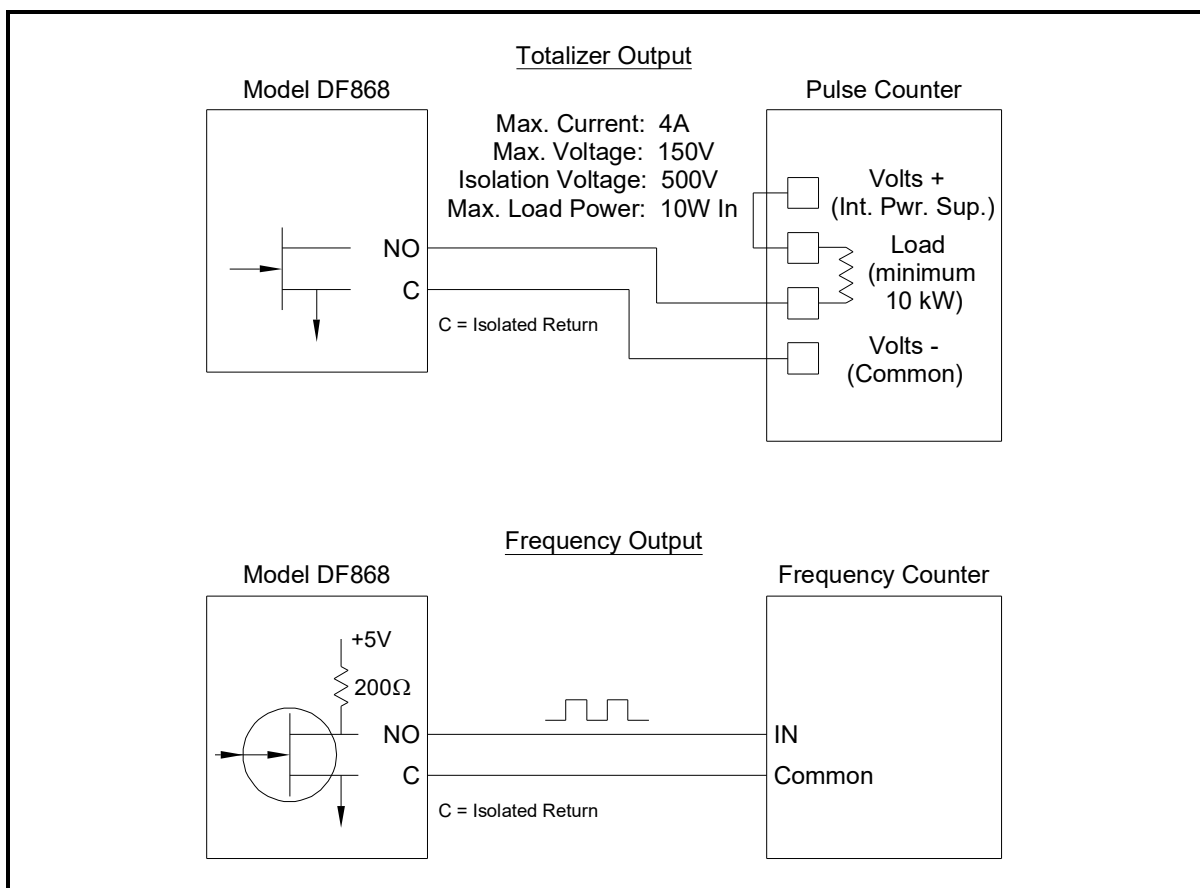
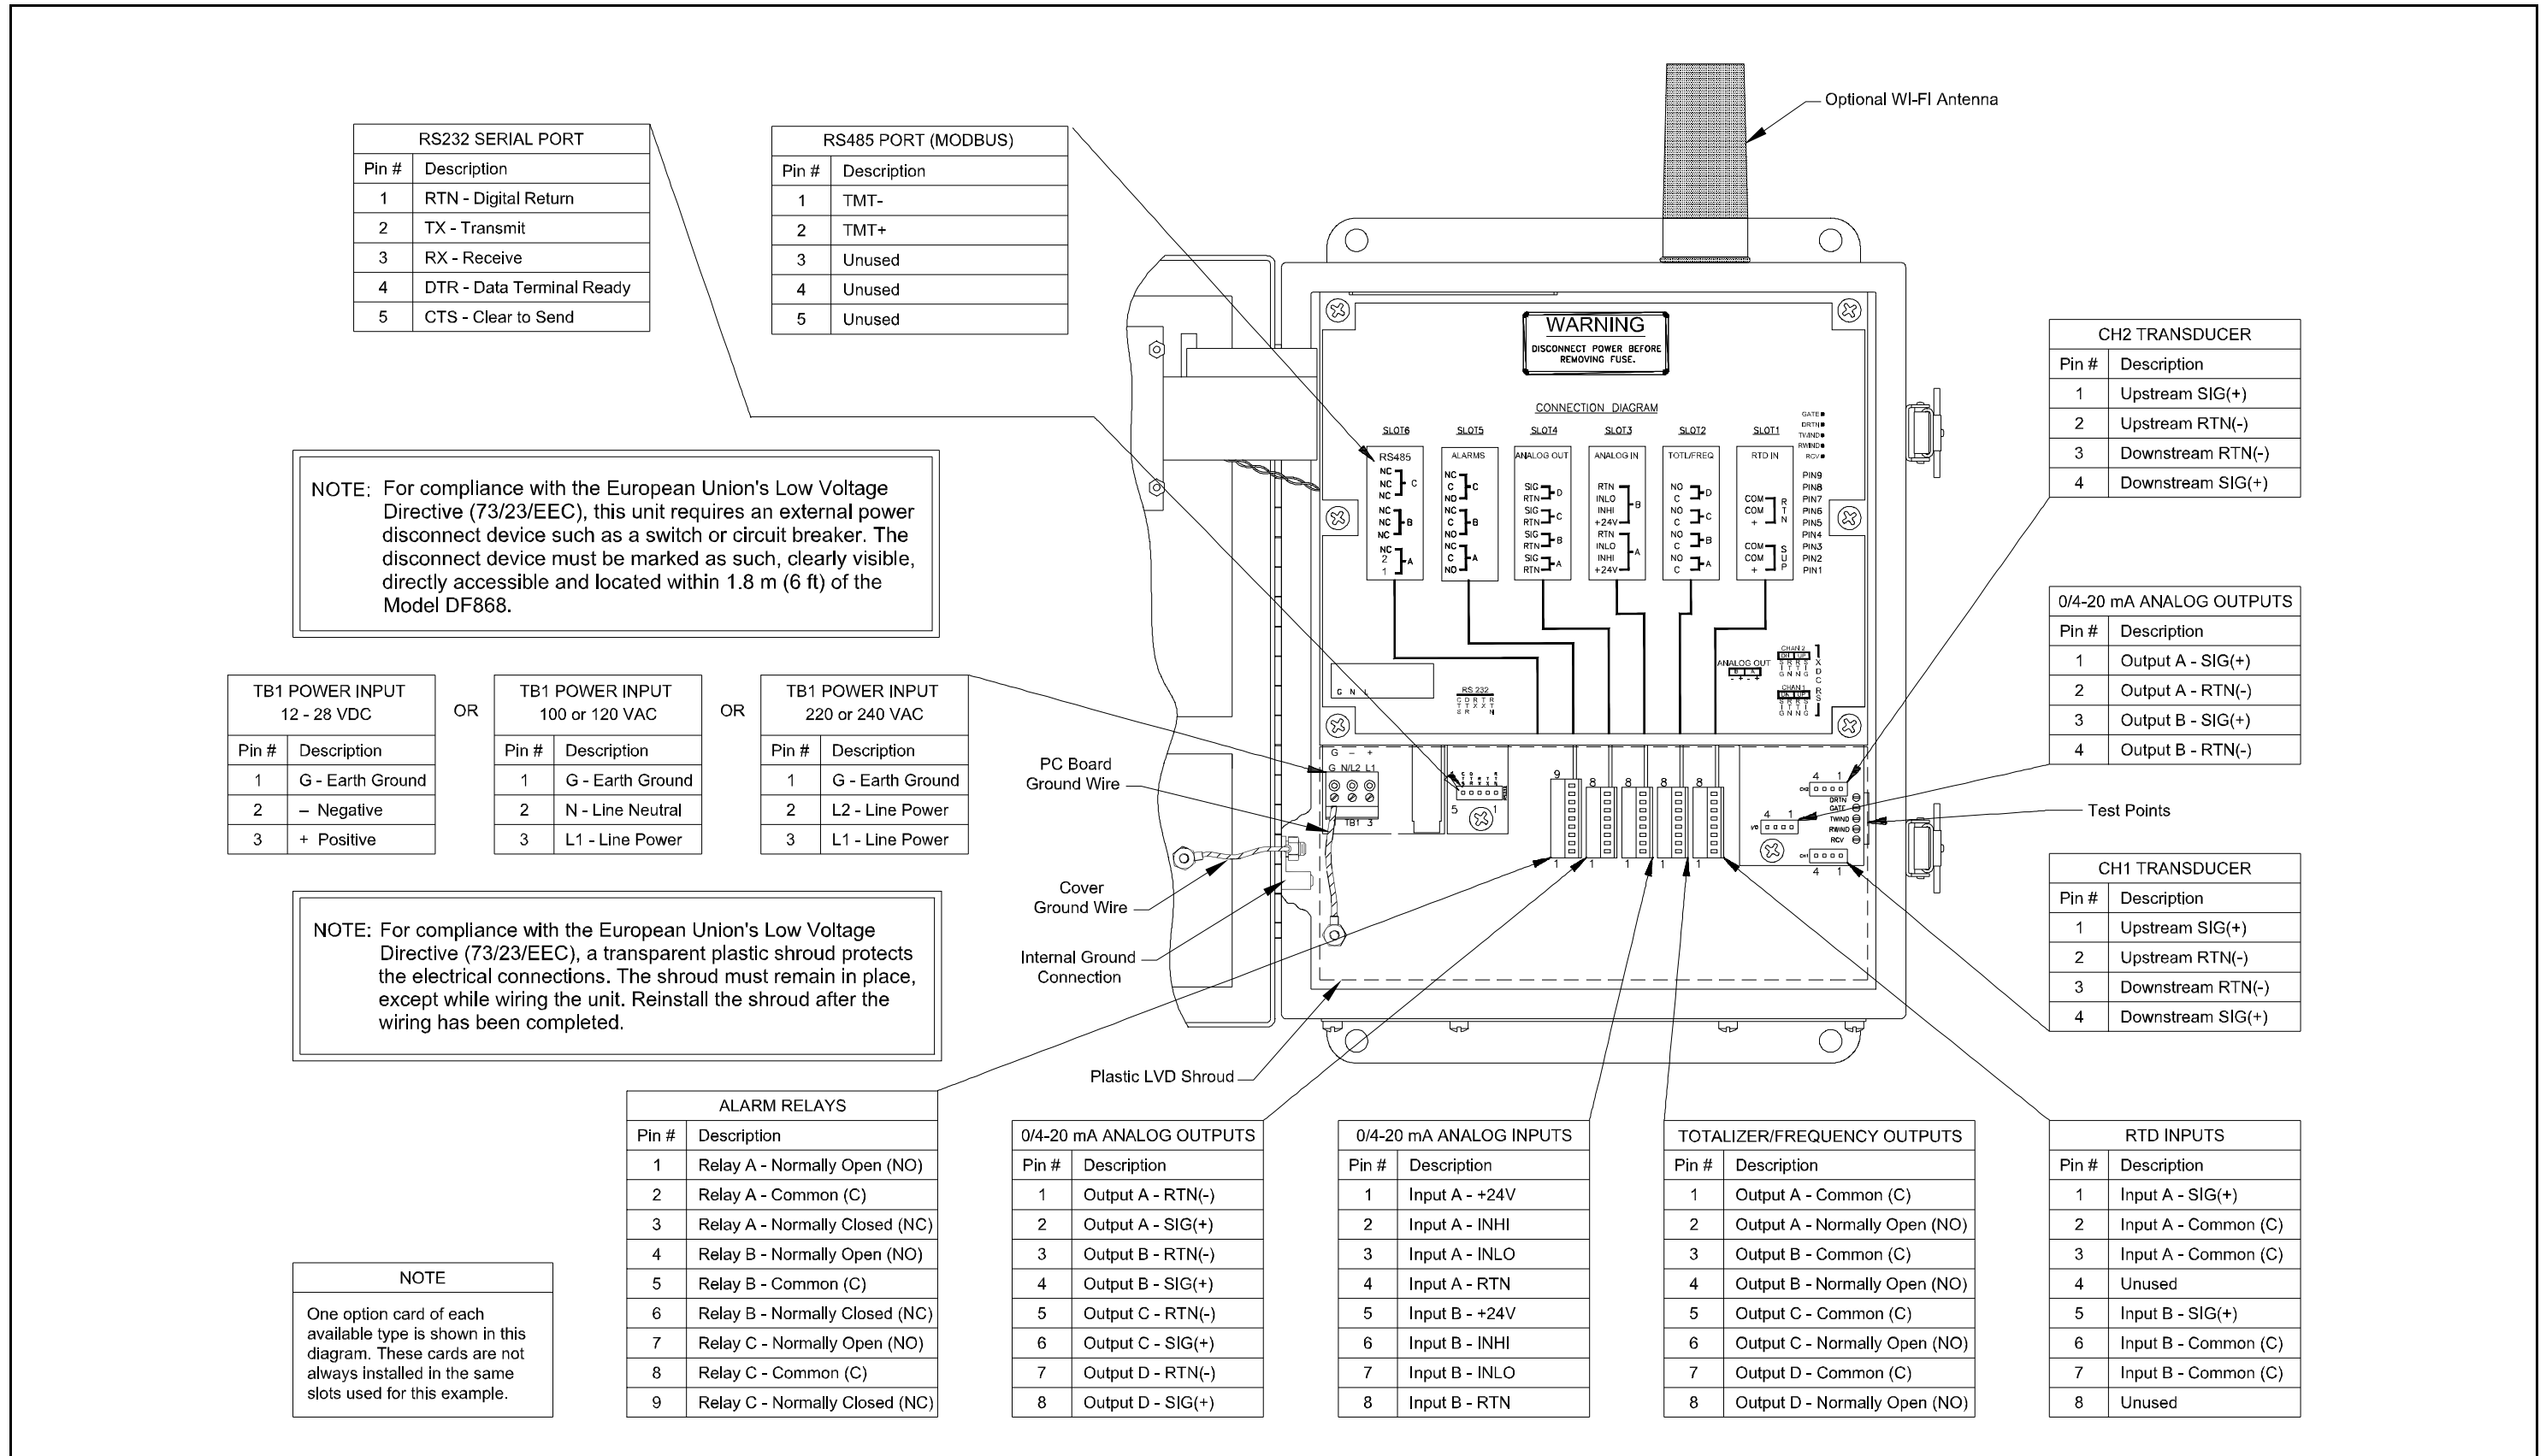

Figure 8: Totalizer/Frequency Outputs Wiring
Figure 10: Model DF868 Electronics Console Wiring (ref. dwg #702-213, sht 1 of 2)
3. Refer to the wiring diagram in Figure 10 on page 16 and connect the transducer cables to the CHI terminal block. Then, secure the cable clamp.
Refer to Figure 10 on page 16 for the location of terminal block **I/O** and wire the terminal block as shown.
Use the serial port to connect the Model DF868 flowmeter to a printer, an ANSI terminal or a personal computer. The RS232 interface is wired as Data Terminal Equipment (DTE), and the signals available at terminal block J1 are shown in Table 1. Refer to Figure 10 on page 16 and complete the following steps:
To wire the RS485 serial port, refer to Figure 10 on page 16 and complete the following steps:
Connect the two wires required for each alarm relay in accordance with the pin number assignments shown in Figure 10 on page 16.
Wire the analog input terminal block in accordance with the pin number assignments shown in Figure 10 on page 16.
If the flowmeter system includes additional transmitters, the Model DF868 can accommodate up to three more analog inputs option cards. These option cards are identical to the temperature card described on page 11 and they should be wired in the same manner (see Figure 10 on page 16).
Each totalizer/frequency output requires two wires. Wire this terminal block in accordance with the pin number assignments shown in Figure 10 on page 16. Figure 8 shows sample wiring diagrams of a totalizer output circuit and a frequency output circuit.
Each RTD input requires three wires, which should be fed through one of the conduit holes on the bottom of the electronic console. (For maximum accuracy, the three wires must be of equal length.) Wire this terminal block in accordance with the pin number assignments shown in Figure 10 on page 16.
Connections to these outputs may be made with standard twisted-pair wiring. The total current loop impedance for these circuits must not exceed 1000 ohms. Wire this terminal block in accordance with the pin number assignments shown in Figure 10 on page 16.
The MODBUS option card must be plugged into either slot 5 or slot 6 of the DF868. On the option card, pin 1 is the [TMT-] inverting or negative connection and pin 2 is the [TMT+] non-inverting or positive connection. To link the DF868 to the control system, connect the two wires of the twisted-pair cable from these terminals to the corresponding terminals at the control system, in accordance with the pin number assignments shown in Figure 10 on page 16.